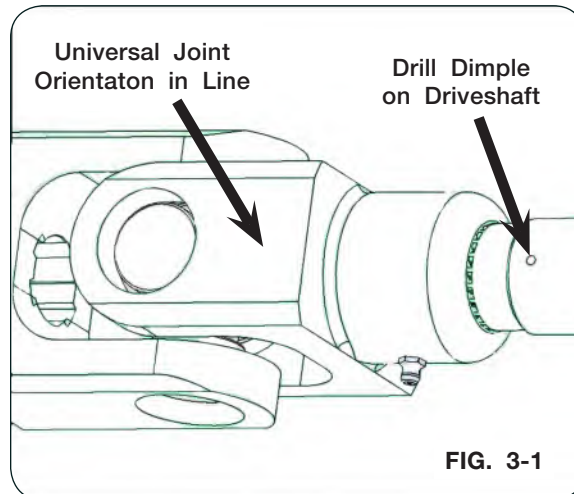

FIG. 3-1
1. Slide driveshaft down into the universal joint attached to the gearbox until the end of the shaft extends into the universal joint about 2 3/8". Ensure universal joint and driveshaft splines completely engage. Verify the hitch end for adequate length for driveline assembly to connect. (FIG. 3-1 and 3-3)
3. With bearing mounting hardware completely tightened, drill a setscrew dimple in the driveshaft by going through the bearing setscrew threaded hole to dimple the driveshaft being careful to not damage threads. Drill the dimple to a depth that setscrews are flush with the bearing prior to applying thread locker and installing setscrews. (FIG. 3-1)
4. For alignment of the yoke, the orientation of the universal joint at the gearbox must be in line with the driveshaft drill dimple when the driveline assembly is attached. (FIG. 3-1, 3-2, and 3-3)